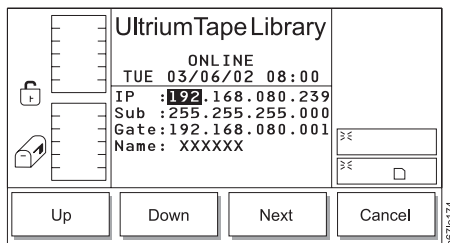

Figure 4-103. Confirm Changes Dialog
- Press the button below the **RMU** softkey. The Confirm Changes Dialog displays (see Figure 4-103) with the following information:
- IP** The Internet protocol (IP) address of the library. The IP address is an identifier that is unique to the library and is necessary for communication with the server. Valid values are 000.000.000.000 through 255.255.255.255.